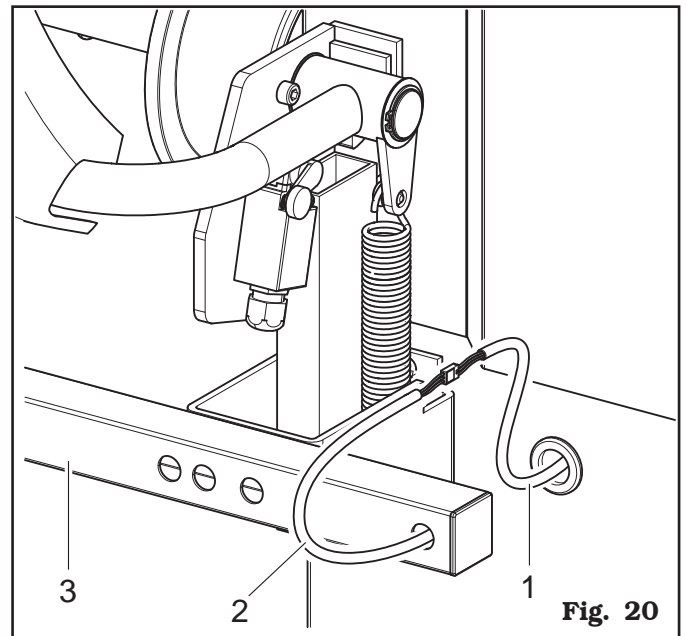

Fig. 20
4. Connect connector (**Fig. 20 ref. 1**) of the cable coming from inside the machine to connector (**Fig. 20 ref. 2**) of the cable coming from the gauge arm. Fit the section of the cable with the connectors inside the arm (**Fig. 20 ref. 3**).